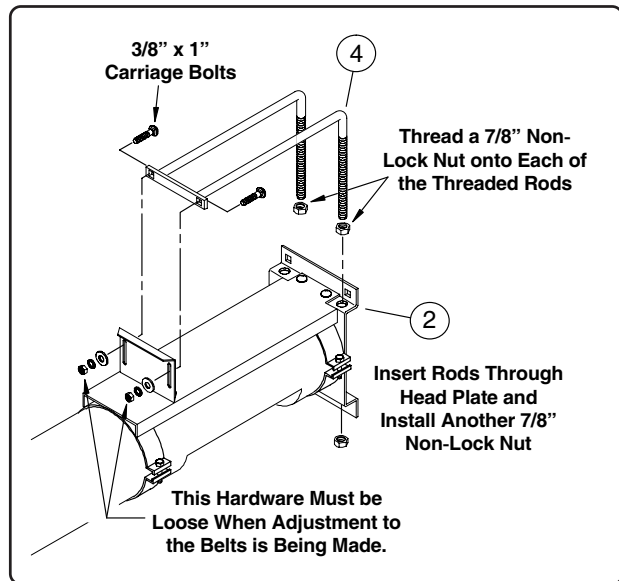

Fig. 9
6. Note the bar welded to the end of the motor mount rods, attach this bar to the support plate (Ref. 3) using two 3/8" x 1" carriage bolts, flat washers, lock washers and non-lock nuts (the bolts will be inserted from the rod side as shown in Fig. 9).
**NOTE: The hardware securing the rod ends to the support plate (Ref. 3) also need to be loose when making adjustments to the belts (See Fig. 9).**